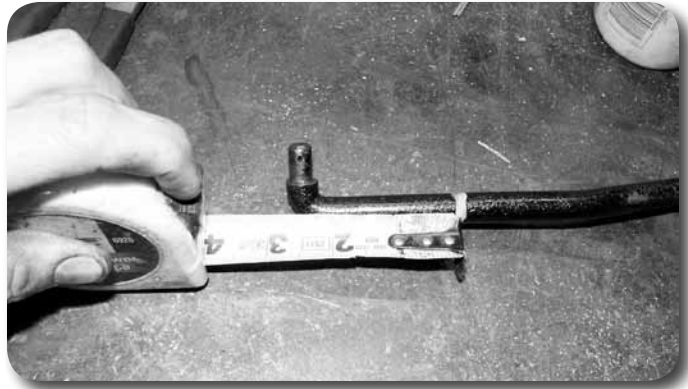

Figure 7
26. Measure 2-1/2" up from lower mount on clutch linkage and mark. Also make an alignment mark down the length of the linkage, perpendicular to the cut line. This line will aid in aligning the two pieces correctly after they are cut. Cut the linkage in half at the cut line. – Fig 7.